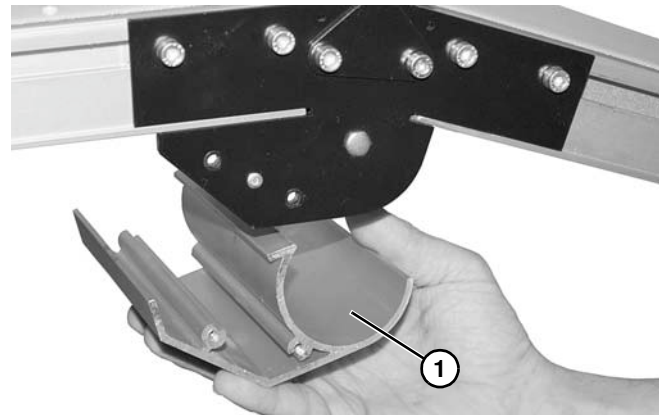

Figure 81
2. Position guard (**Figure 81, item 1**) between knuckle plates.